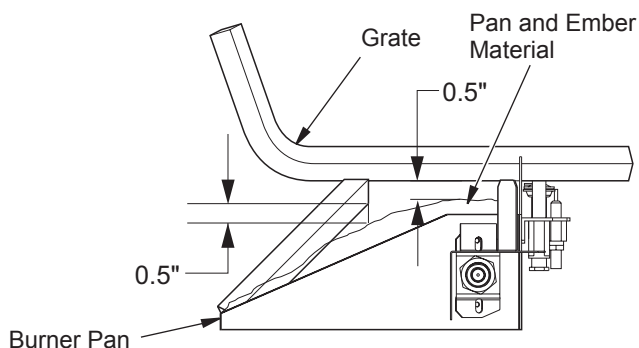

Figure 24 - Pan and Ember Material Clearances
4. Place just enough to cover the entire surface and leave about a 1/2 inch gap under the lower grate members to allow air to flow (see Figure 24).